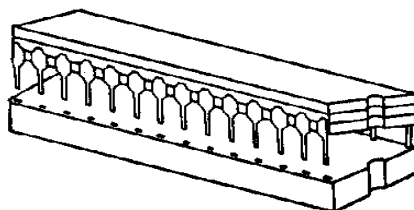

Figure A.3: Inserting Pins in One Side of Socket
3. Carefully insert the pins on one side of the PROM or PLD chip into holes on the correct side of the socket (see Figure A.3).